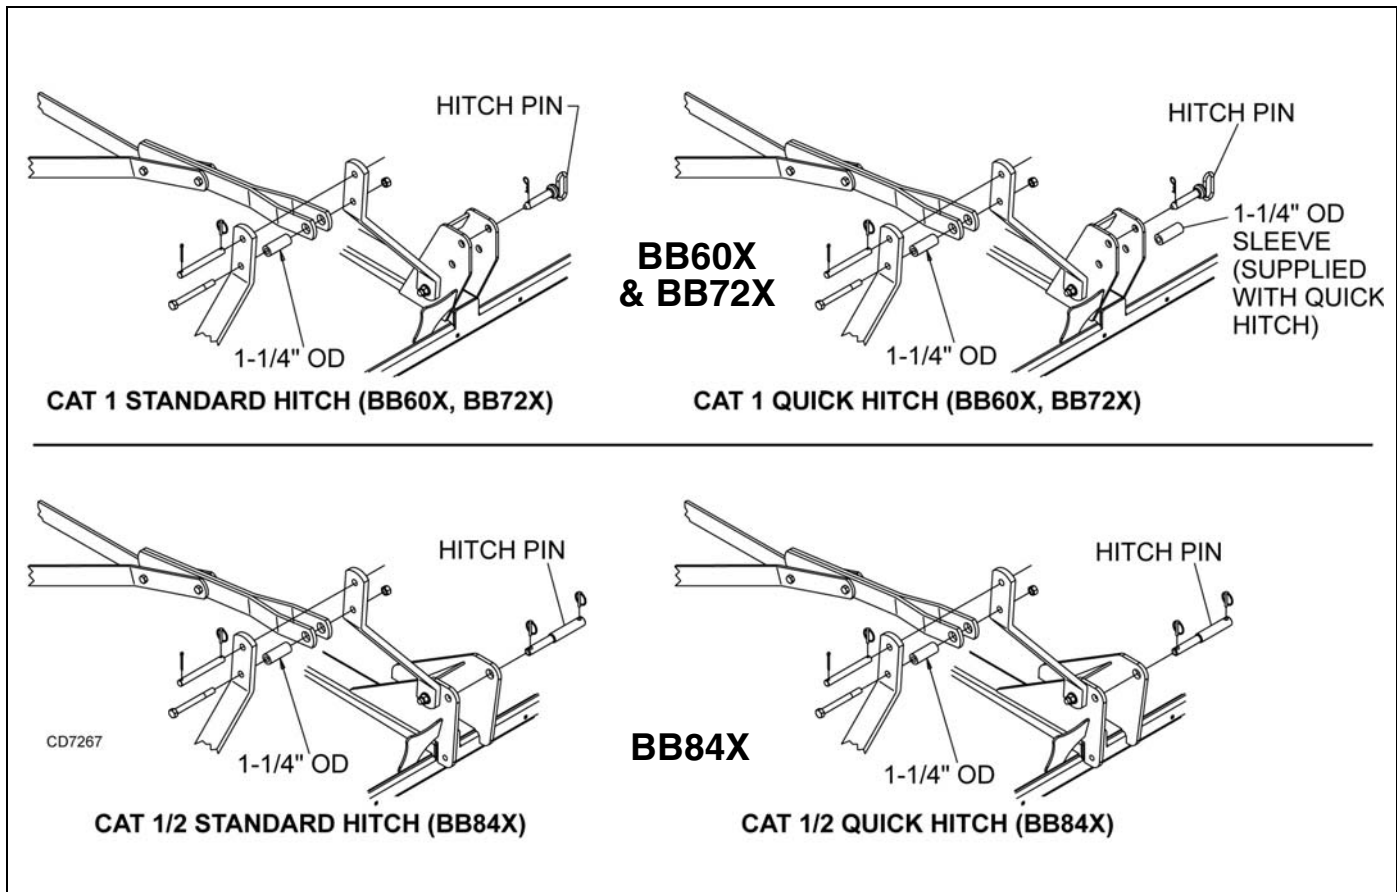

Figure 4. Standard Hitch and Quick Hitch Configurations - BB60X, BB72X & BB84X
1. Position tractor 3-point arms between the mast plates and secure with hitch pins and cotter pin. See left side of Figure 4. Note pin orientation for the BB84X.
1. Position tractor 3-point arms between the mast plates and secure with hitch pins and cotter pin. See right side of Figure 4. Note pin orientation for the BB84X.